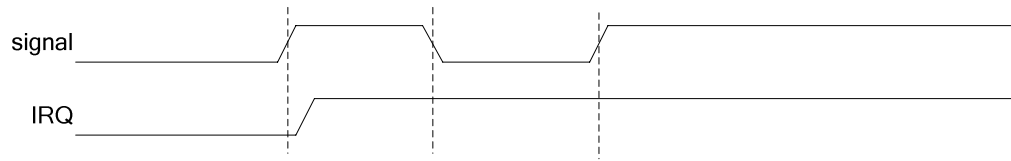
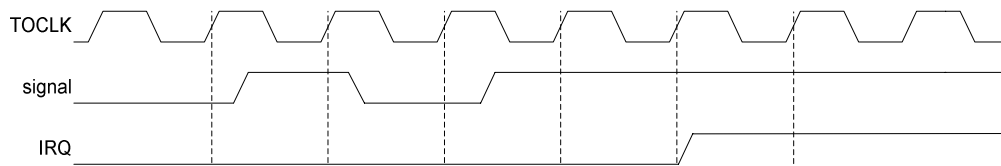
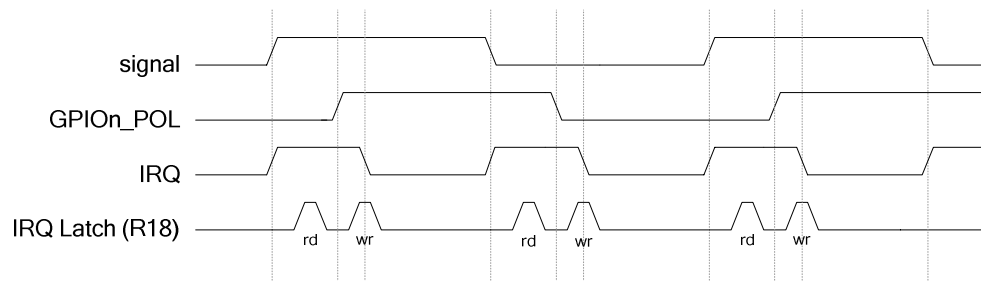

Figure 46 GPIO Latch
Figure 47 GPIO De-bounce
Figure 48 GPIO Edge Detect
Three typical scenarios are presented in the following Figure 46, Figure 47 and Figure 48. The examples are:
- Latch a GPIO input (Figure 46)
- Debounce and latch a GPIO input (Figure 47)
- Use the GPIO_n_POL bit to implement an IRQ edge detect function (Figure 48)